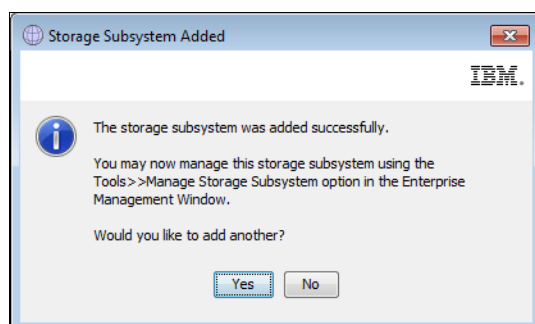

Figure 2-8 Storage was added successfully
9. After the system discovers the storage, you can see that it completes successfully, and asks you if want to add another one. At this panel (Figure 2-8), we select **No**, as we do not want to add more storage subsystems. Now that your storage manager is set up, we can cover setting up the storage subsystem in 2.8, "Storage provisioning" on page 50.